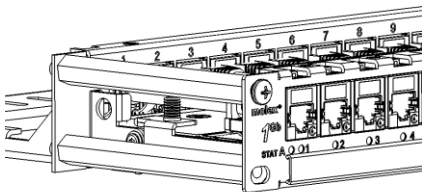

Figure 3
7. Insert each MIIM ICS jack into the corresponding MIIM ICS panel port. Front of jack should be flush with the panel front and jack latch should lock jack in place (see Figure 3).